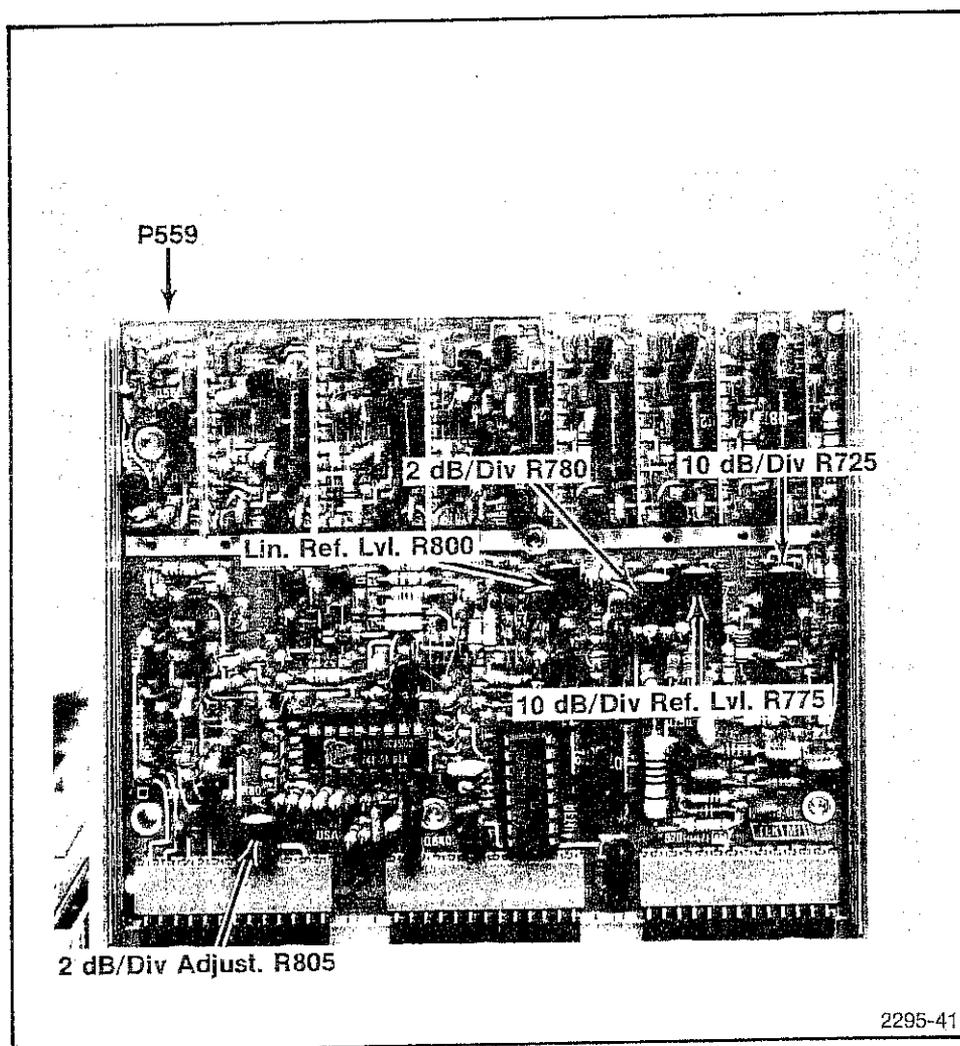

Fig. 4-33. Log and Video Amplifier Test Points and Adjustments.
g. Change the REFERENCE LEVEL 10 dB by switching to -20 dBm and adjust 2 dB/Div, R805, (see Fig. 4-33) for five divisions of change.
i. Switch in 70 dB of attenuation in 10 dB steps and set 10 dB/div adjust, R725, (see Fig. 4-33) for the best 10 dB/div accuracy.
j. Return the step attenuators to 0 dB. Adjust 10 dB/div Reference Level R775 (see Fig. 4-33) for full screen signal.
k. Change the Display Mode to 2 dB/DIV. Adjust 2 dB/div Reference Level, R780, (see Fig. 4-33) for full screen signal.
l. Change the Display Mode to LIN. Adjust LIN Reference Level, R800, (see Fig. 4-33) for full screen signal.